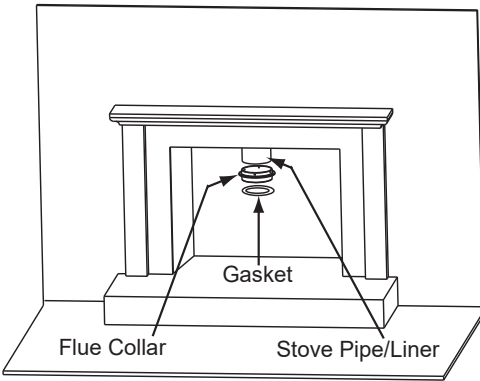

Figure 19.1
1. There are 4 already drilled holes in the flue collar 90 degrees apart. Attach the flue collar to the stove pipe/liner. If the seal is questionable use high temperature sealant such as stove mastic (**Figure 19.1**).